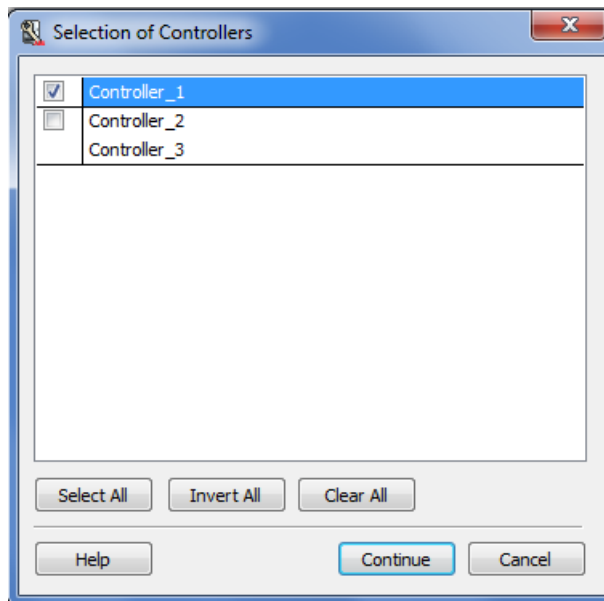

Figure 62. Selective of Controllers dialog
If you select **Tools > Download Project and Go Online** for a project with more than one controller, the Selection of Controllers dialog will be displayed. For example, in Figure 62, “Controller_2” and “Controller_3” cannot be separately selected or excluded since one application is connected to both these controllers.
1. Click **Continue**-button in Figure 62, an Online Analysis window will open.